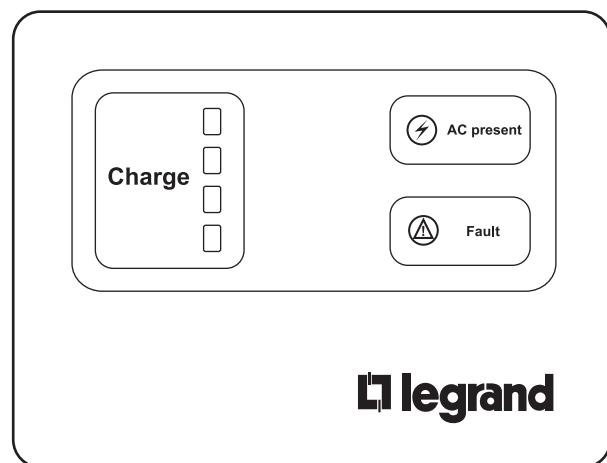

Figure 7
7. Verify the correct installation of the charging unit by reviewing the indicator lights. There are three sets of indicator lights that communicate the status of the charging station (Figure 7).